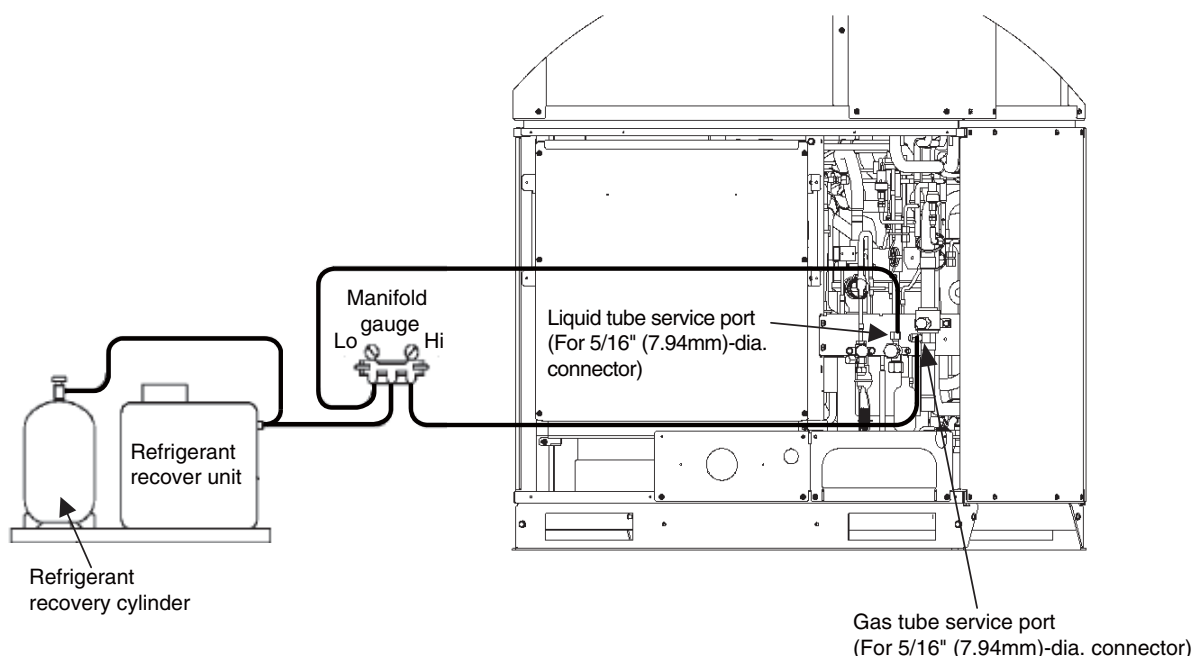

Fig. 11
- ④ Turn off power to all equipment in the system. Then pull out the RC1 connector (4P) (BLU) (CN106) on the outdoor control PCB in the outdoor unit for which pump down has been completed.
- ⑤ Change the setting of controllable outdoor unit numbers (reduce by 1 unit).
- ⑥ Turn on power for all equipment in the system and let the remaining outdoor units run in Cooling mode.
- ⑦ Repeat steps ① and ② and complete pump down for all outdoor units.
- ⑧ Using hoses with Schrader-type push-to-release valves, connect the manifold gauge valves to the suction line service port, the discharge line service port and the liquid line service port in the next outdoor unit to undergo pump down. (Fig. 11)
- (1) Turn off power to the entire outdoor system.
- (2) Short-circuit the AP (Air Purge) pins (CN102) on the outdoor control PCB of all outdoor units, then supply power to the outdoor units.
- (3) If any unit has encountered a power failure, follow the instructions in “5-1. Refrigerant Recovery Procedures (from Outdoor Units)” and perform refrigerant recovery for the faulty outdoor unit.
- (4) Connect the manifold gauge to the high- and low-pressure outlet ports (Schrader-type valves) on any outdoor unit. (Fig. 11)